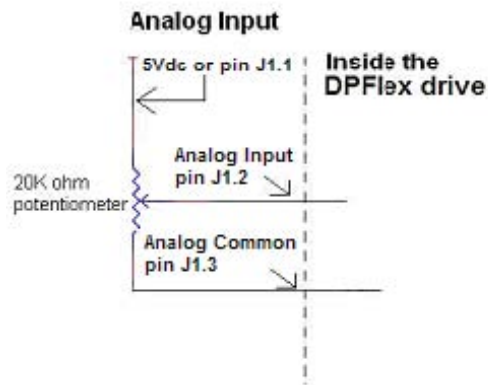

Figure 6: Example of connecting passive circuitry to DPFlex's analog input generation 1
(4) Refer to schematic shown in Figure 6.